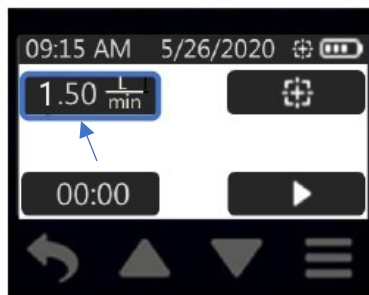

Figure 27. Flow Display
3. Touch flow display (Figure 27).